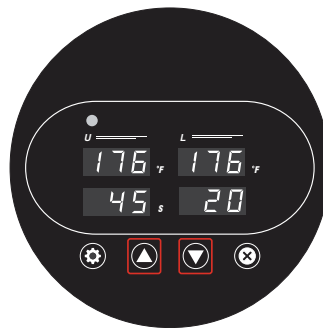

Fig. 8
8. Press Up  or Down  buttons to select either °F or °C (Fig. 8) OR skip this step if you are satisfied with the current selection.